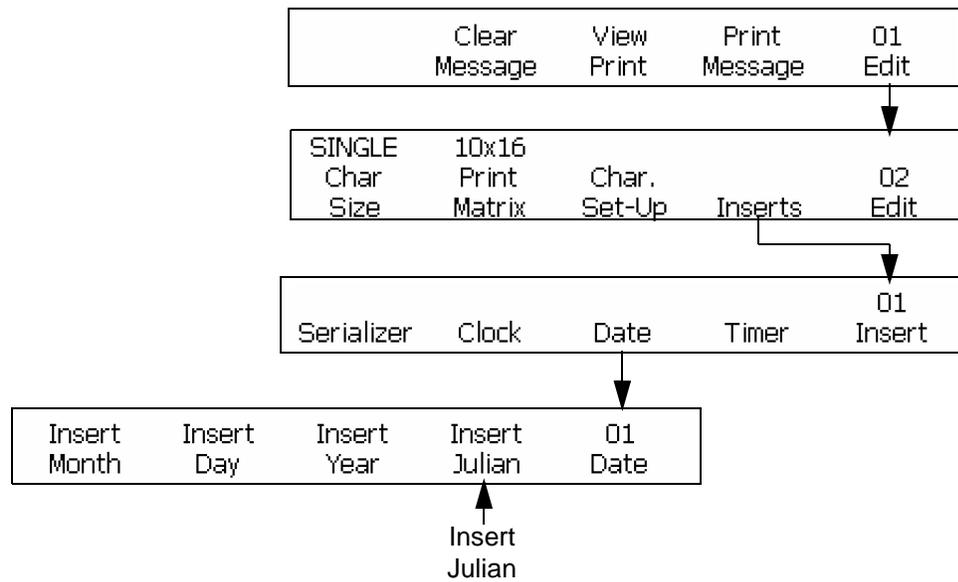

Figure 6-33: Accessing Frame <01 Date>
- 1 Begin in the Frame <01 Date>. Refer to Figure 6-33 on page 6-40.